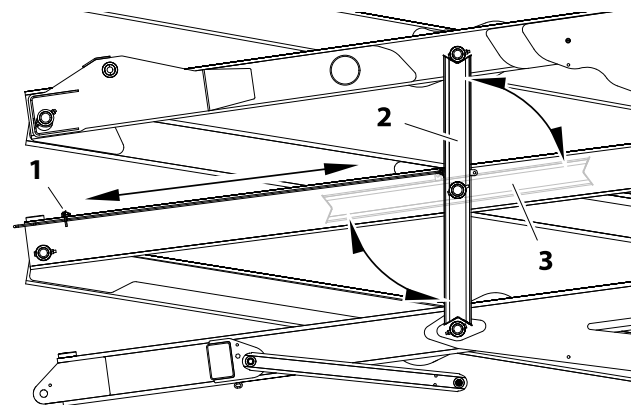

Figure 2-1. Scissor Arm - Safety Prop Assembly
1. To engage the safety props, raise the unloaded platform high enough to allow the safety props to rotate vertically into position. (See Figure 2-1.)